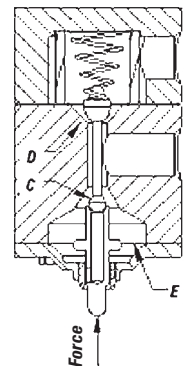

Figure 5 — Throttle pilot
The Throttle pilot (see Figure 5) also has two seats to admit supply gas and exhaust "used" gas. A diaphragm (E) is used to sense pressure/force feedback and a spring assists closing pressure on the thrust pin. The Throttle pilot is operationally similar to the Snap pilot except that the output pressure is proportional to the mechanical force applied to the thrust pin (C). As the thrust pin force changes, the pilot seeks to maintain equilibrium by either decreasing (exhausting) output loading pressure or increasing output loading pressure. Supply air does not flow when the loading pressures of the pilot are balanced.